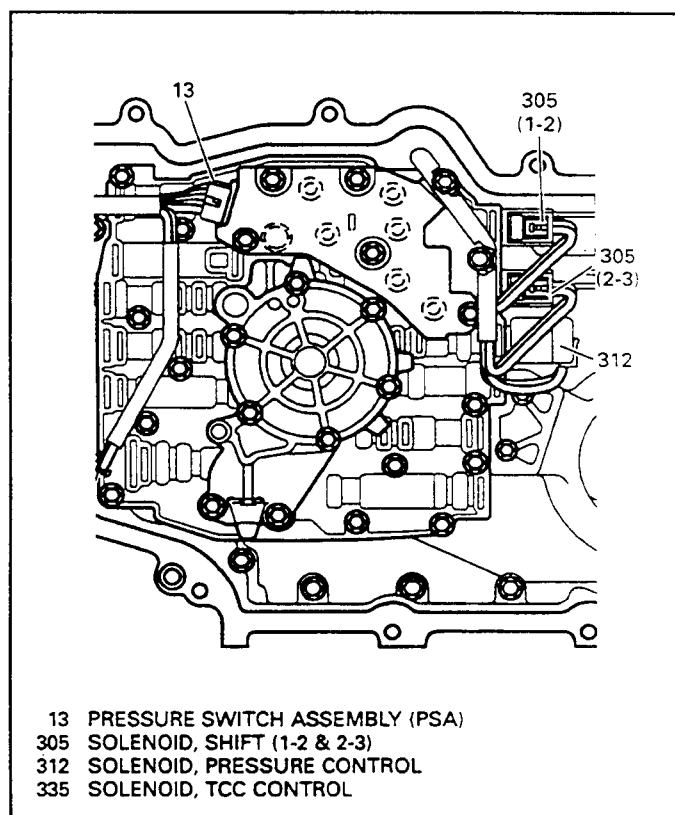

Figure 179
28. Torque all oil pump and valve body bolts down to 9 ft.lb. Begin in the center and work outward in a circle (See Figure 179).
29. Connect the wiring harness assembly to each of the electrical components (See Figure 179).